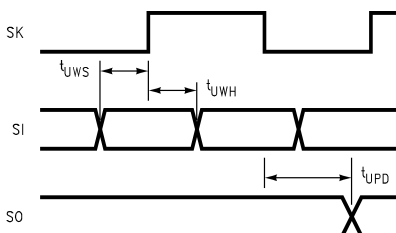

Figure 8. MICROWIRE/PLUS Timing
(1) t_C = Instruction cycle time.
(2) Parameter characterized but not tested.
(3) MICROWIRE Setup and Hold Times and Propagation Delays are referenced to the appropriate edge of the MICROWIRE clock. See Figure 8 and the MICROWIRE operation description.
(1) Parameter characterized but not tested.
(2) MICROWIRE Setup and Hold Times and Propagation Delays are referenced to the appropriate edge of the MICROWIRE clock. See Figure 8 and the MICROWIRE operation description.